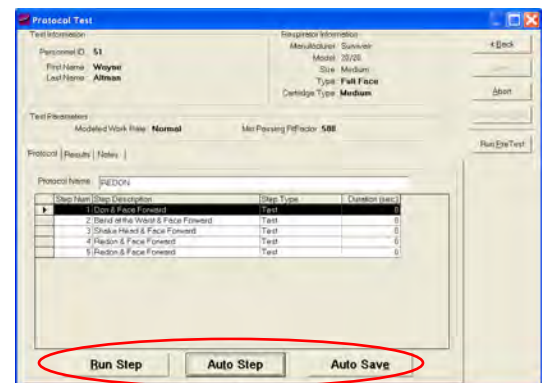

Fig. 6 – Selecting Step Run Mode
27. Select your preference of “Run Step,” “Auto Step,” or “Auto Save” buttons at the bottom of the screen. Auto Save is the recommended configuration when using the Quantifit. (Fig. 6)